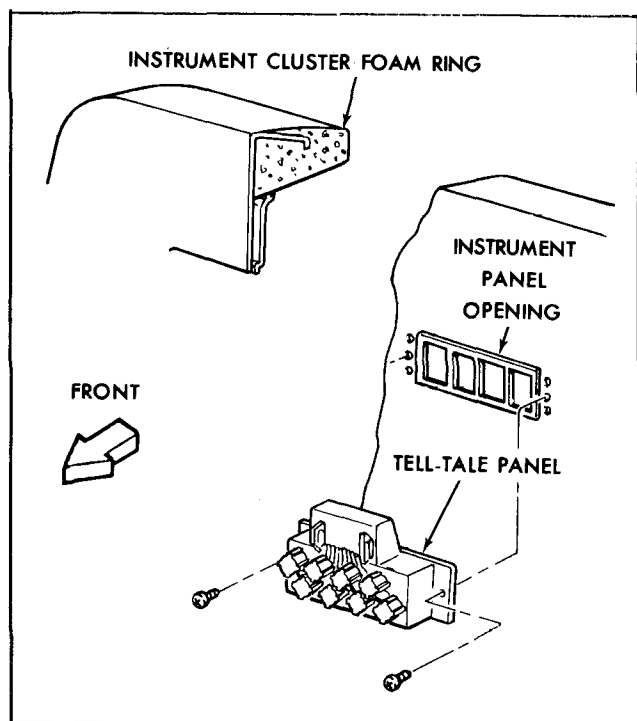

Figure 6-Tell-Tale Light Panel
4. Remove the (2) panel retaining screws and remove the panel (See figure 6).